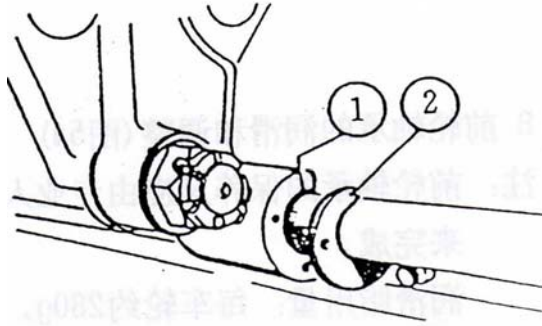

Fig. 55
8.9.1 Replace liner bushing (Fig.55)
2. Remove the baffle (Fig.55/2).
3. Disassemble the blade by means of sliding and inner bushing (Fig.55/1).